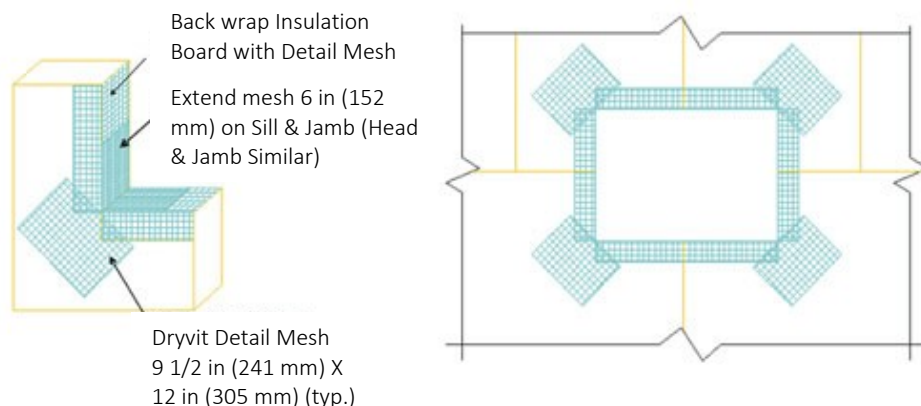

Fig. 24
- a. At penetrations, align the insulation boards so that the edges (vertical and horizontal joints) do not coincide with the corners of the opening as illustrated in Figure 24.